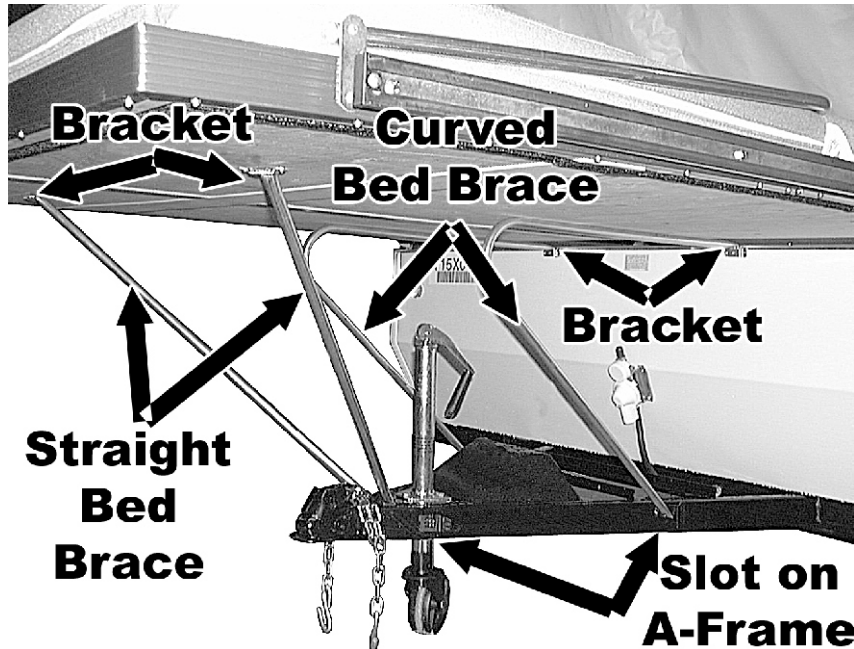

Fig. 10
- Place the bent hook into the bracket attached to the front wall. (Fig. 10)
- Place the flattened end of the straight bed brace into the slot provided on the frame of the camper. Place the angled and smashed end of the straight bed brace into the bed bracket near the outer corner under the plywood bunk bed. (Fig. 10)